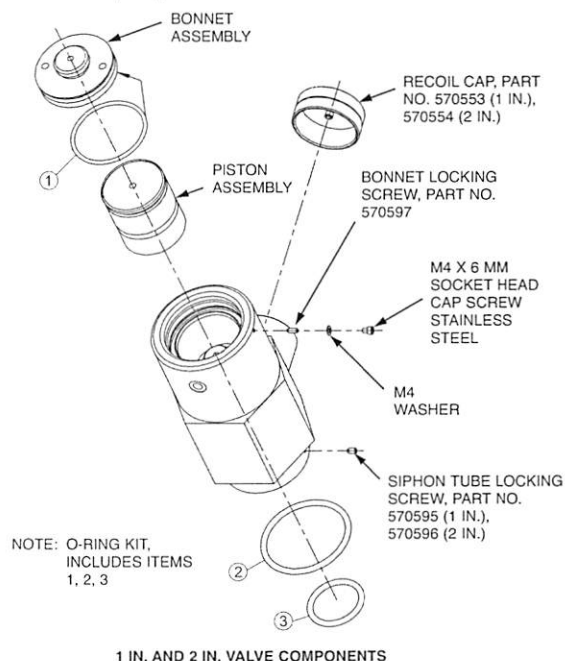

FIGURE 1
4. **1 in and 2 in. Valves** – Valve cleaning/O-ring replacement instructions. Refer to Figure 1 for component descriptions.